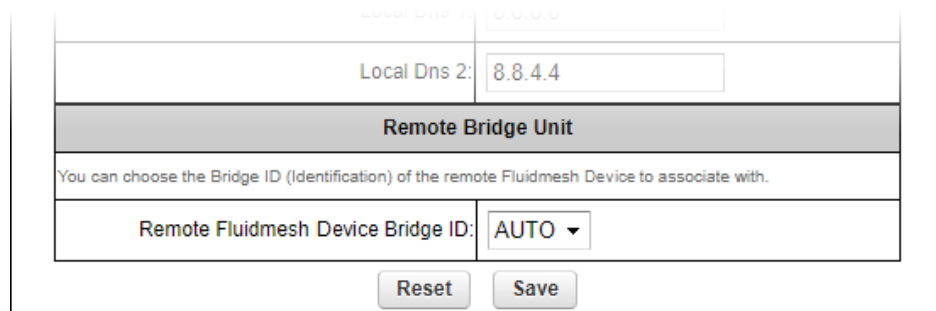

Figure 25. General Mode window (Remote Bridge Unit section)
1. Click the **Remote [Unit model] Bridge ID:** drop-down (Figure 25 (page 59)).